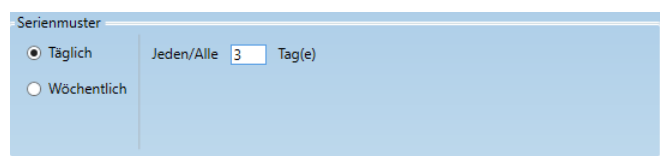

Figure 24: Daily serial pattern. From the selected starting point, the image storage in this example active every three days for 24h
- **Daily:** It can be set that the image storage should be activated every X days from the start date and time for 24h each (Figure 24).